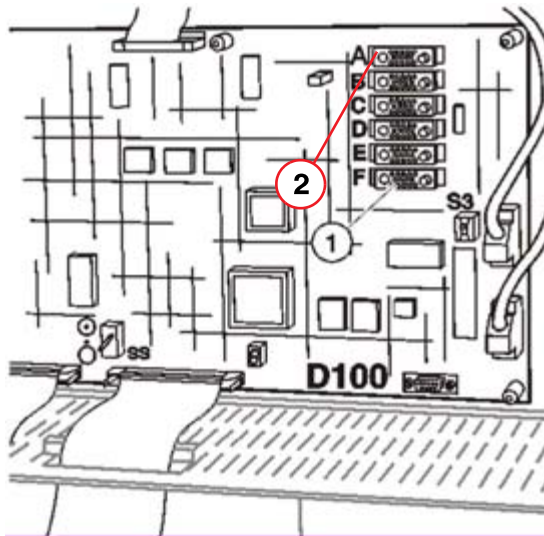

Fig. 45: Connection of the Iontomat measuring chamber
- Connect the SDM measuring cable to D100.X28(F) (1/Fig. 45 / p. 42) and secure the connector locking mechanism.
- Connect the Iontomat cable to D100.X33(A) (2/Fig. 45 / p. 42).